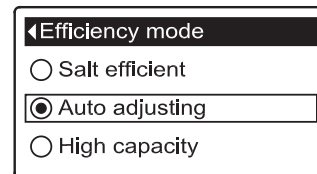

FIG. 136
8a. Efficiency mode: If the desired efficiency mode already has a black dot next to it (See Figure 136), go to Step 9. Otherwise, press the DOWN (▼) or UP (▲) buttons to scroll to the desired efficiency mode, then press SELECT (O) to choose it.